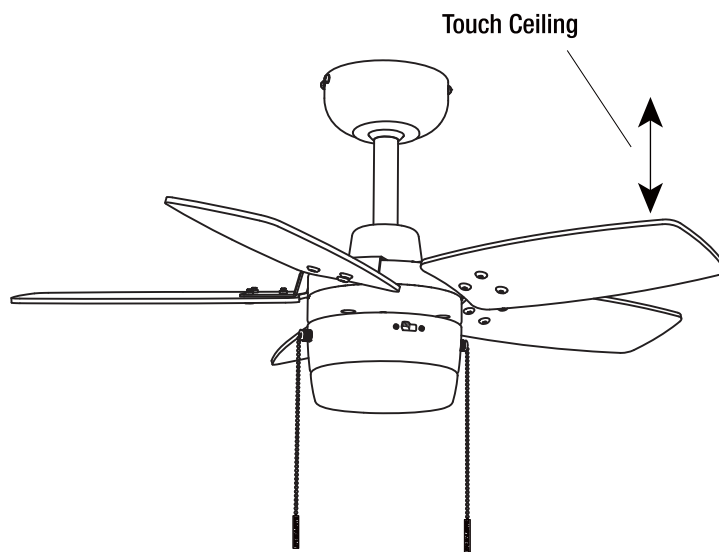

Figure 15
- Most fan wobble problems are caused when blade levels are unequal. Check this level by measuring the distance from the tip of one blade to the ceiling as shown in Figure 15. Rotate the fan until the next blade is positioned in the same place as the previous blade and measure again. Repeat for each blade. Measurements should be within 1/8 in.